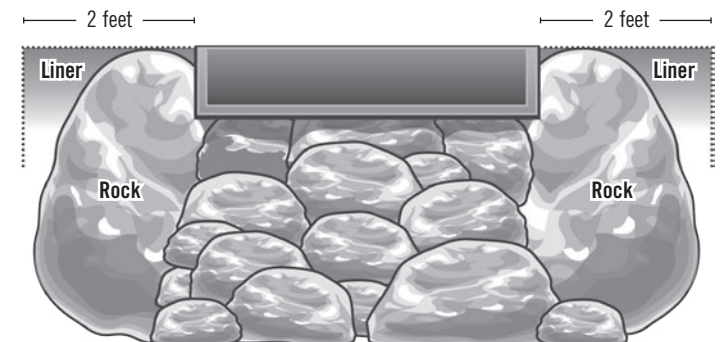

Fig. 15 Place two larger boulders on either side of the waterfalls you are creating in order to “frame” the waterfalls.
- Small stones and gravel can be used to fill the gaps between the larger waterfall stones. (See fig. 15)